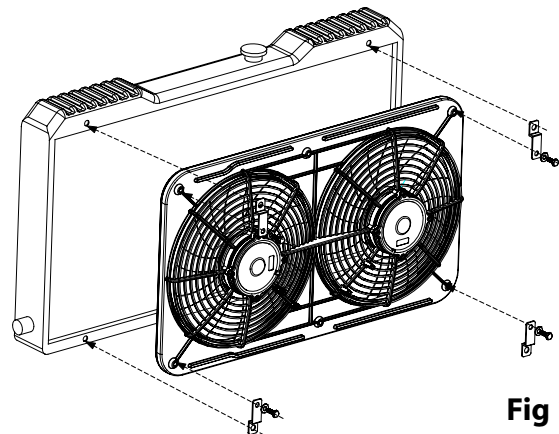
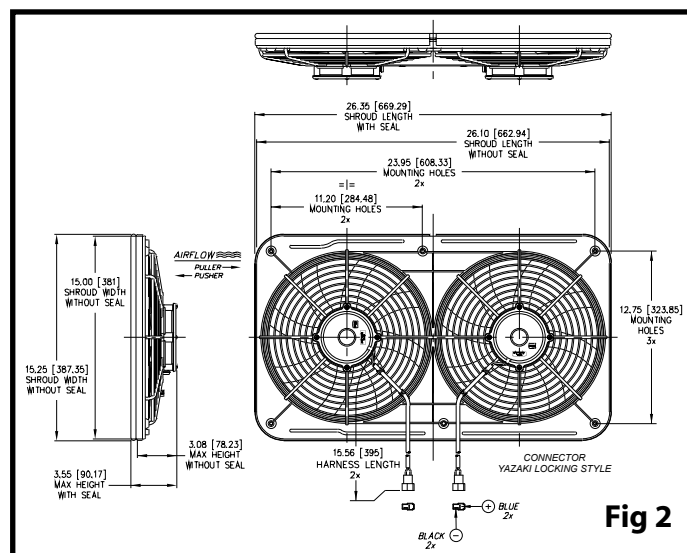

Fig 1
Fig 2
2. We do not recommend the use of nylon tie kits or any other "through core" mounting methods for this fan assembly. The 160 watt motors used in this dual fan assembly are too heavy and produce too much starting torque to be supported by the radiator fins. We recommend purchasing a prefabricated mounting kit **MARADYNE® MFA107** or fashioning metal brackets that will attach to at least four of the six 1/4 - 20 nylon reinforced nuts pressed in the back of the shroud and then bolted to the U-channels of the radiator/heat exchanger (See Fig 1.). 1" X 1/4-20 bolts are recommended to attach the brackets to the shroud. Bolts must **NOT** be long enough to contact the radiator/heat exchanger. See Fig 2 for bolt pattern.